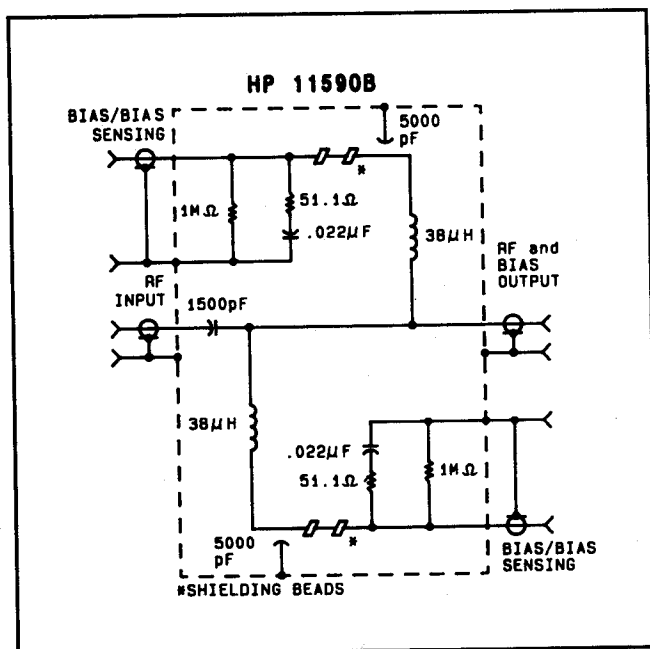

Figure 1. Schematic Diagram
8. A schematic diagram of the HP 11590B is shown in Figure 1. The capacitor in the RF input arm acts as a dc block/high pass filter. The vertical arms are identical and act as bias/bias sense arms. Because the BIAS/BIAS SENSING port draws no current (it is connected to a high impedance voltmeter), the voltage measured is identical to the voltage at the RF and Bias Output. To double the maximum current handling capability, both BIAS/BIAS SENSING ports may be used for bias input.